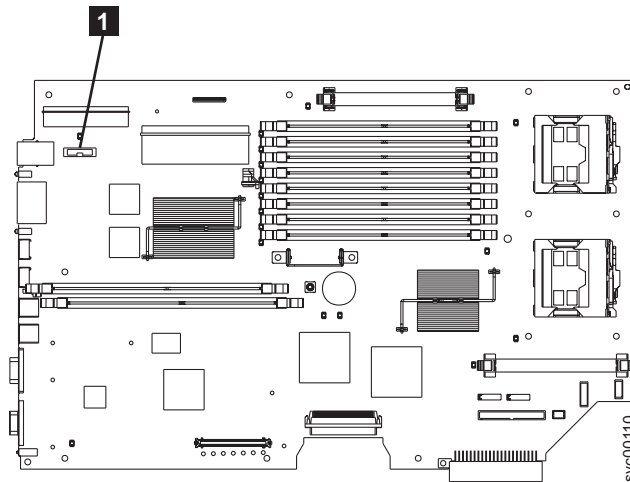

Figure 57. Location of the CMOS battery on the SAN Volume Controller 2145-8F2
1. Insert the new battery in the battery socket **1**. See Figure 57 on page 228.